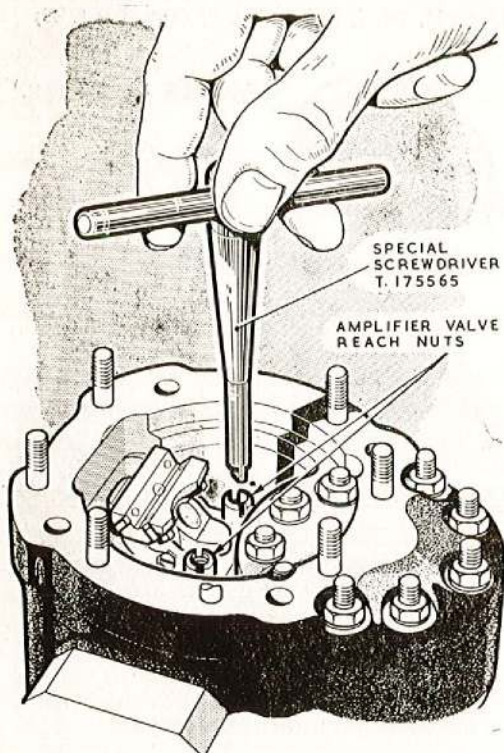
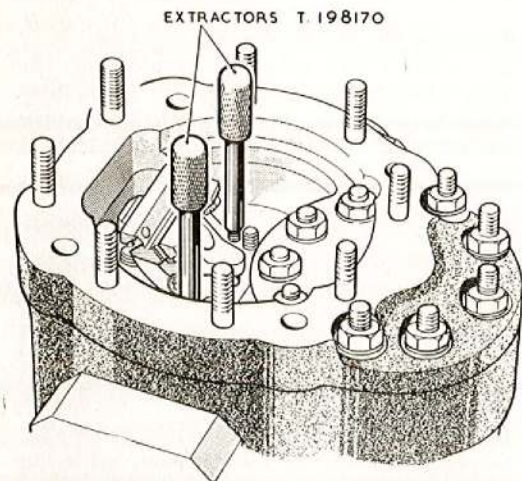

Fig. 6. Removing the amplifier valve reach nuts
Fig. 7. Withdrawing the amplifier valve assembly
23. Unlock the tab-washers securing the nuts which retain the amplifier valve base plate to the pump housing then, using the special tool T.175565, as shown in fig. 6, unscrew and remove the four reach nuts. Screw in two extractors T.198170 as shown in fig. 7, and lift the assembly out of the pump body. The assembly may feel slightly tight at first due to the rubber sealing ring on the orifice strainer housing but a steady pull on the extractors will release the seal.